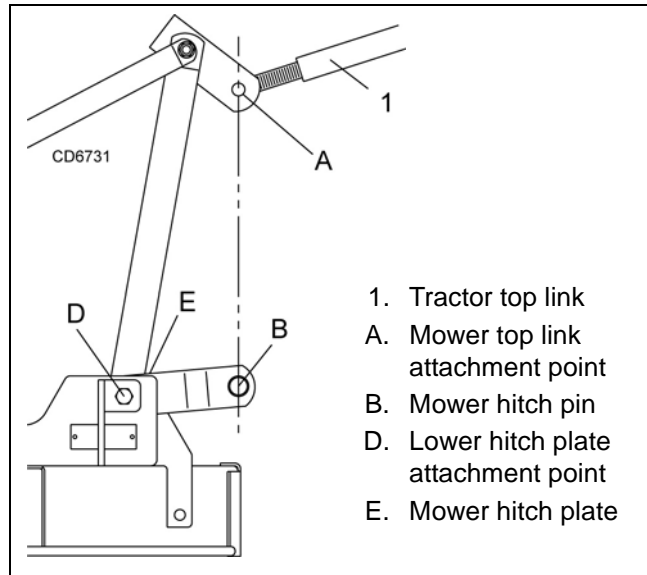

Figure 6. Top Link Adjustment
The mower has three lower hitch plate attachment points (D), Figure 6. It may be necessary to change the mower hitch plate attachment point to obtain proper tire clearance and/or lift height.
When the cutting height is set, adjust tractor top link until mower top link attachment point (A) is aligned vertically with mower hitch pin (B), Figure 6.
3. If there is interference on models PRD6000 and PRD7200, mount front casters in the outer position. If interference continues, adjust mower hitch plate (E) as shown in Figure 6.